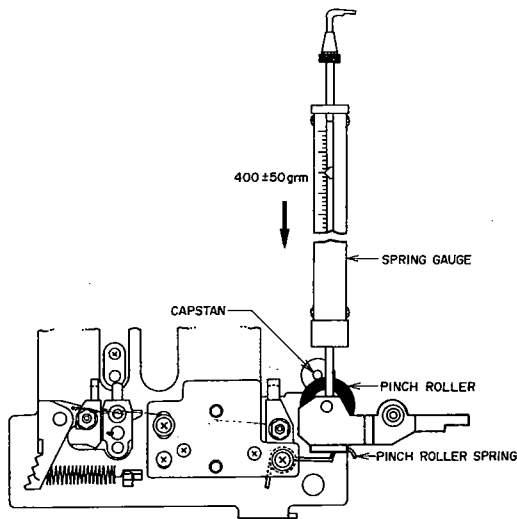

Fig. 5 Pinch Roller Pressure Measurement
2. PINCH ROLLER PRESSURE MEASUREMENT (Refer to Fig. 5)